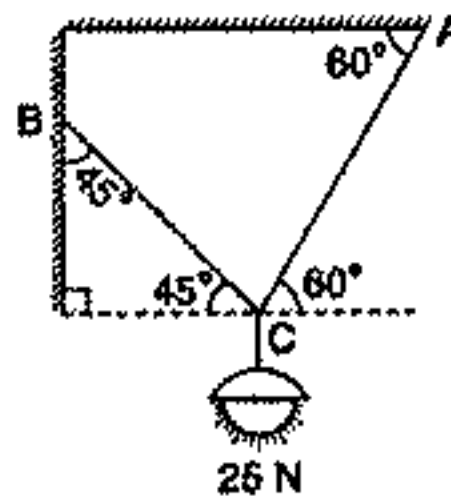

Figure 1
- An electric light fixture weighing 25 N hangs from a point C, by two strings AC and BC. The string AC is inclined at 60° to the horizontal and BC at 45° to the vertical; as shown in figure 1. Determine the forces in the strings AC and BC.